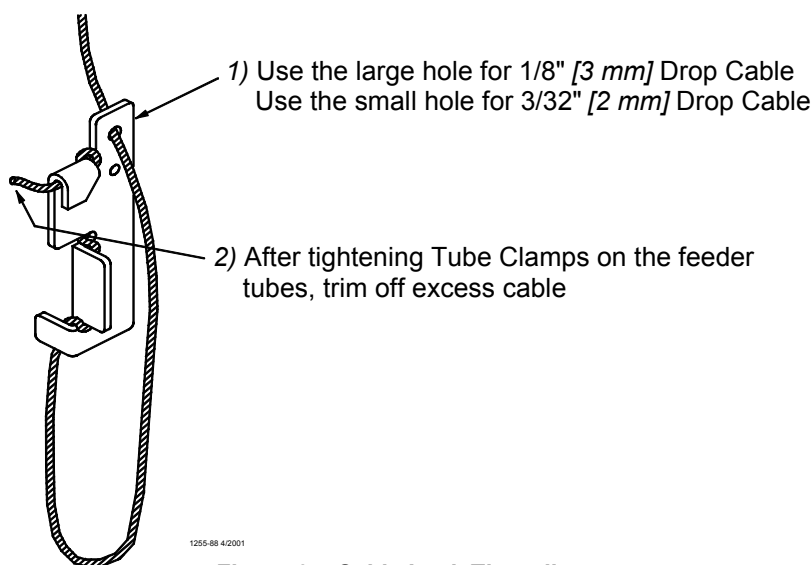

Figure 34. Cable Lock Threading
6. Install Adjustment Leveler within 6" [152 mm] of feeder line. **Figure 34** shows the proper cable routing around the Adjustment Leveler.
Finally, tighten the Tube Clamps on the feeder tubes. Clamp the joints securely, but do not crush the tubes. Re-adjust all Adjustment Levelers as needed and trim off excess cable as shown in **Figure 34**.